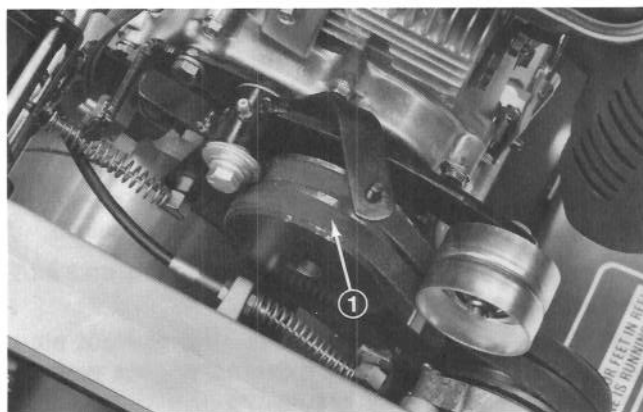

Figure 39
4. To adjust belt tension on primary V – belts (Fig. 39), first check adjustment of traction control. Refer to Adjusting Traction Control, page 16. If unable to attain the 3–5 lbs. force required in adjusting traction control, proceed to step 5.